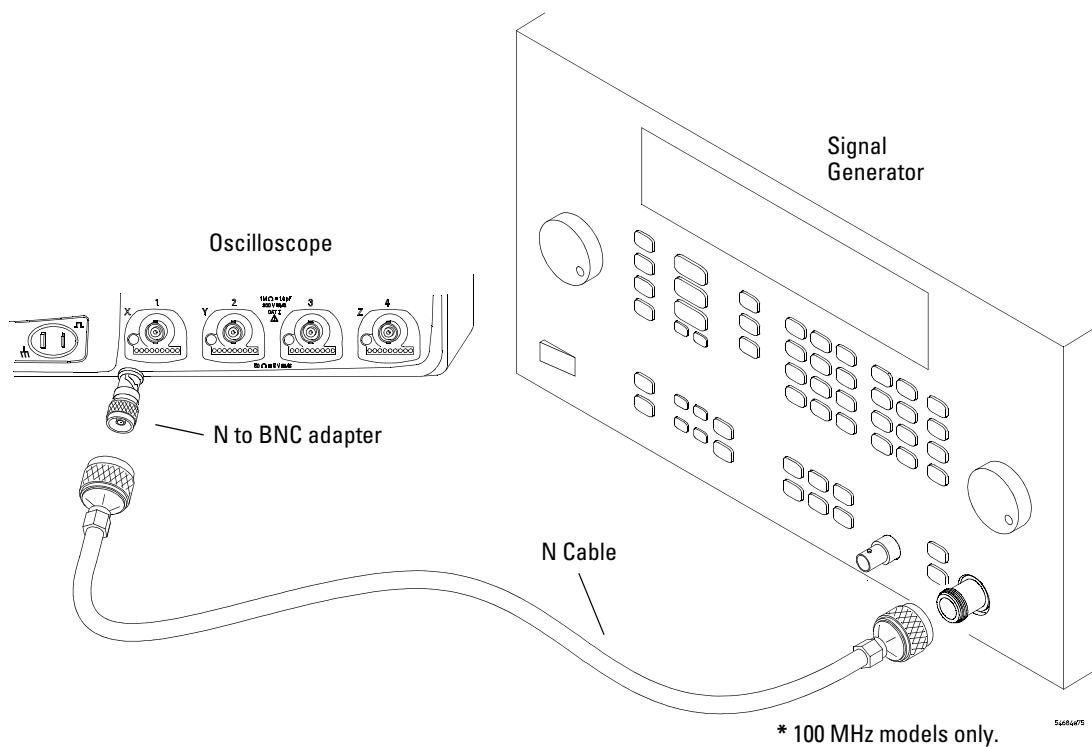

Figure 4 Connect equipment for internal trigger sensitivity test
- 1 Connect the equipment (see Figure 4).